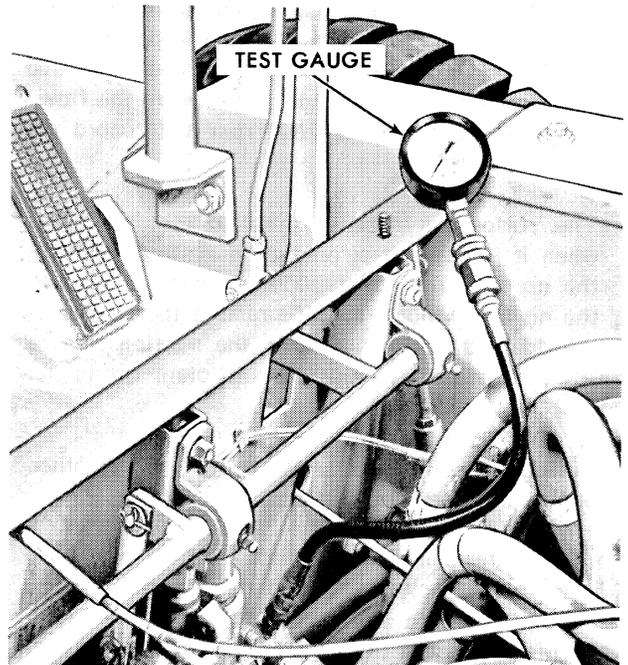

Figure 3
5. Insert the 0-5000 p.s.i. gauge into the pressure port of the lift/tilt section. See Figure 3. Run the engine to maximum rpm and run the bucket or lift cylinders to the end of the stroke while reading the gauge. The pressure on the lift/tilt system should be  $1550 \pm 50$  p.s.i.